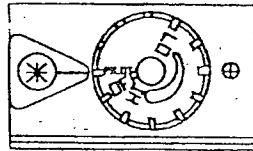

Figure 9
5. *Single:* Turn control knob counterclockwise  to the Pilot position. Press in control knob for five seconds. This will allow air to bleed from the system (see Figure 9).